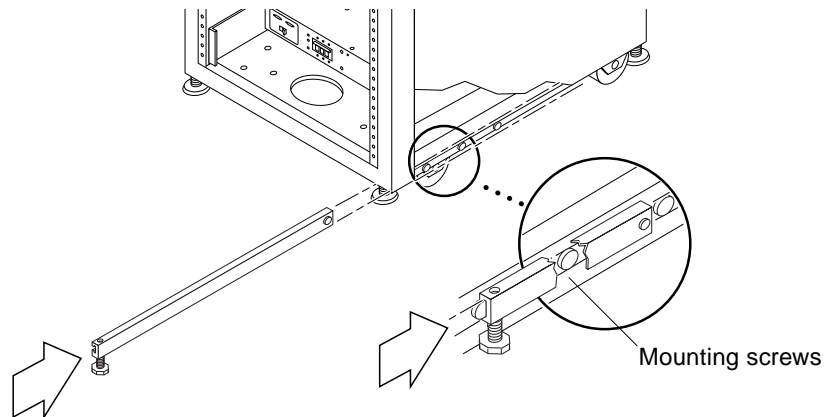

FIGURE 2-3 Installing the Right Stabilizer Leg
2. Slide the right stabilizer leg over the three mounting screws at the bottom of the storage system (FIGURE 2-3).